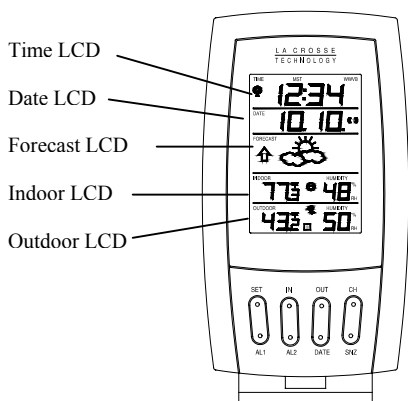

Figure 1
1. The Weather Station (Figure 1).